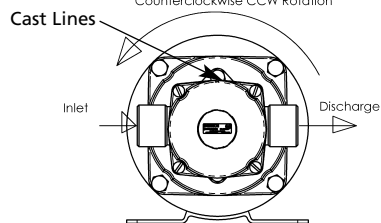

Figure 3 - Rotation
from the pump. For clockwise (CW) rotation, the flow is from right to left. For counterclockwise (CCW) rotation, the flow is reversed (See Figure 3).